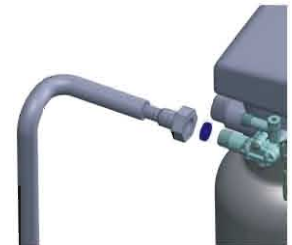

Figure 1-4
⑤ Install drain pipeline
- a. As the Figure 1-4 shows, slide the drain hose connector into drain outlet.
- d. Locate the drain hose well as the Figure1-4 show.
- Be sure not connect drain with sewer, and leave a certain space between them, avoid wastewater be absorbing to the water treatment equipment, such as showed in the Figure1-4.